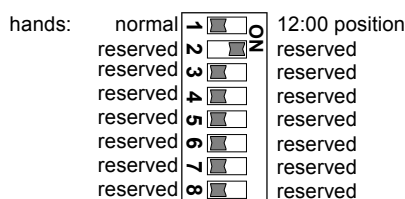

Fig. 6 (ADU 190)
- Different running modes of the second hand, selectable by means of DIP-switch 2 and 3 (Fig. 6).
- Set DIP switch **1** to **ON** position (12:00 Position, Fig. 6, 7)
- After checking the 12 o'clock position, reset DIP Switch **1** to **OFF** position (Fig. 6, 7).